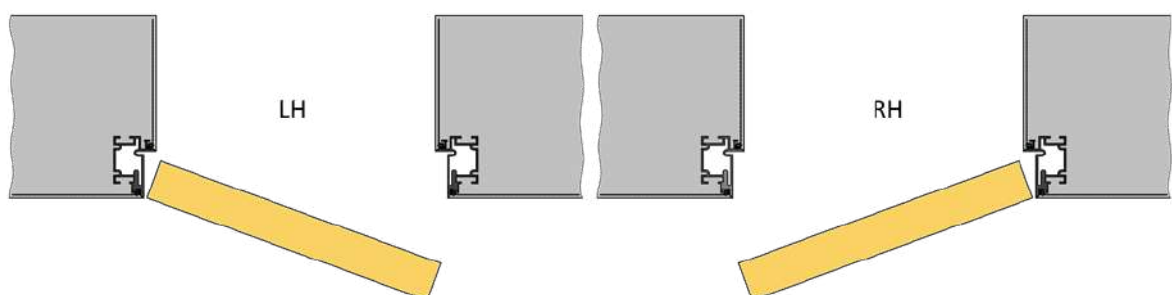
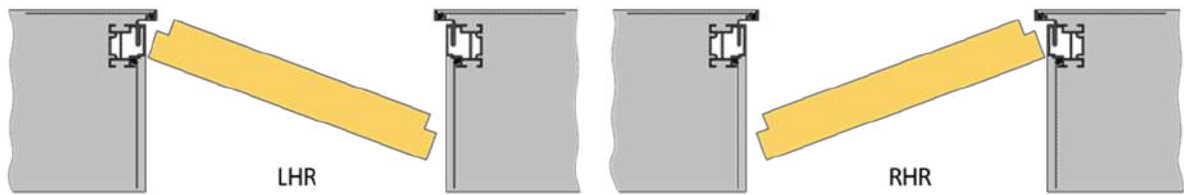

fig. 29
fig. 30
Depending on the opening variant, the iDoors door sets are divided into Left-hand (LH) and Right-hand (RH). Also, the doors can have direct (fig. 29) and reverse (fig. 30) opening.